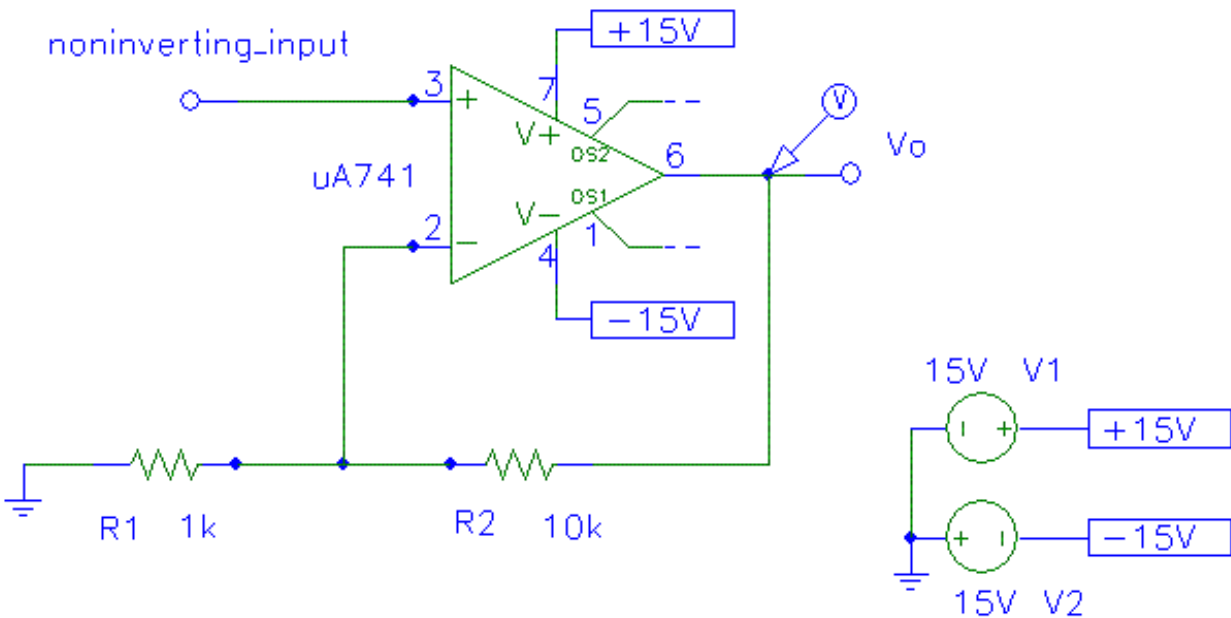

Figure 4.
1. First, assemble the circuit as shown in Fig. 4 to measure the slew rate. Use  $\pm 15V$  power supplies. Take one  $1k\Omega$  resistor and one  $10k\Omega$  resistor. Measure their actual resistances and record them.